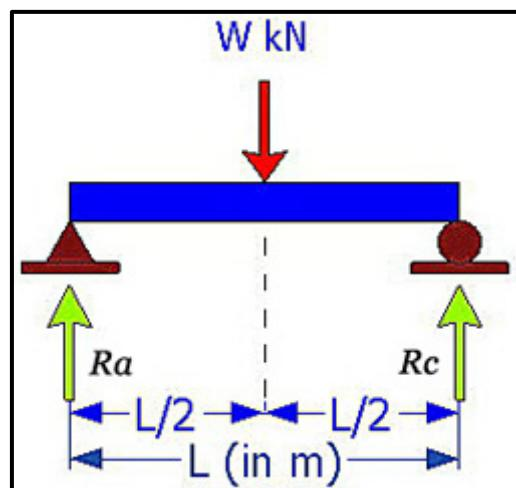

Figure B3(a) / Rajah B3(a)
- (a) Sketch the shear force diagram (SFD) and the bending moment diagram (BMD) of a simply supported beam as shown in Figure B3(a) and label the maximum bending moment.